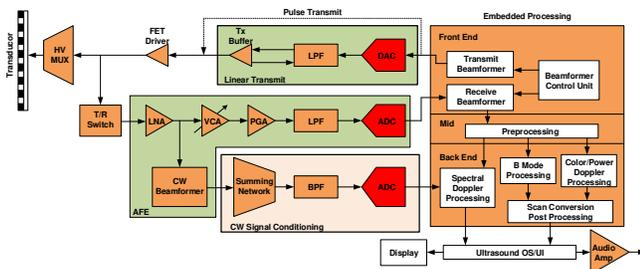

Figure 1. Typical Architecture of an Ultrasound Imaging System
In medical imaging systems, Continuous Wave (CW) Doppler is used to measure the blood flow inside the human body. During CW, a sine wave is transmitted continuously by half of the transducer array as shown in Figure 1 and the other half of the array receives the reflected signal. The system usually uses high-frequency waves (several MHz or more) to image body structures. The reflected signal is weak and has a small signal amplitude (μV to mV range), so the ADC selected for in signal conditioning path must have both high speed and precision. Also, under a trend of home health care, portable ultrasound device are becoming more and more popular, which brings the challenge of reducing solution size while keeping the high performance intact.
Figure 1 shows a typical ultrasound system block diagram, which mainly includes two sections: a transmitter section and a receiver section. A T/R switch between the two sections controls the ultrasound transmission and reception. There are two kinds of transmitters: pulse transmitter and linear transmitter. Linear transmitter has more signal amplitude flexibility compared to pulse transmit due to the DAC control.